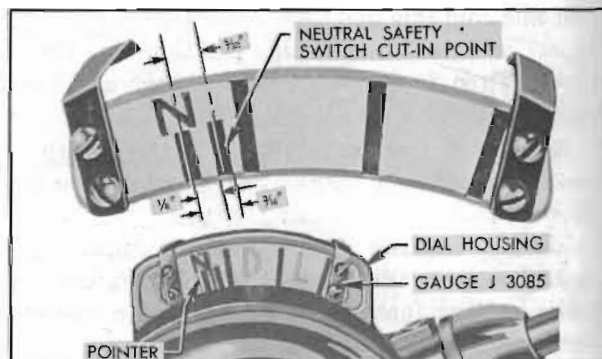

Figure 10-42—Gauge J 3085 Set for Timing the Neutral Safety Switch
3. Firmly engage "step-on" parking brake and place transmission control lever in neutral (N) position, making sure that detent is firmly engaged.
4. Install Gauge J 3085 on speed ratio dial housing so that the *short* line under "N" is centered on the dial pointer. See figure 10-42.
5. Move control lever to driving (D) position, turn ignition on and depress accelerator